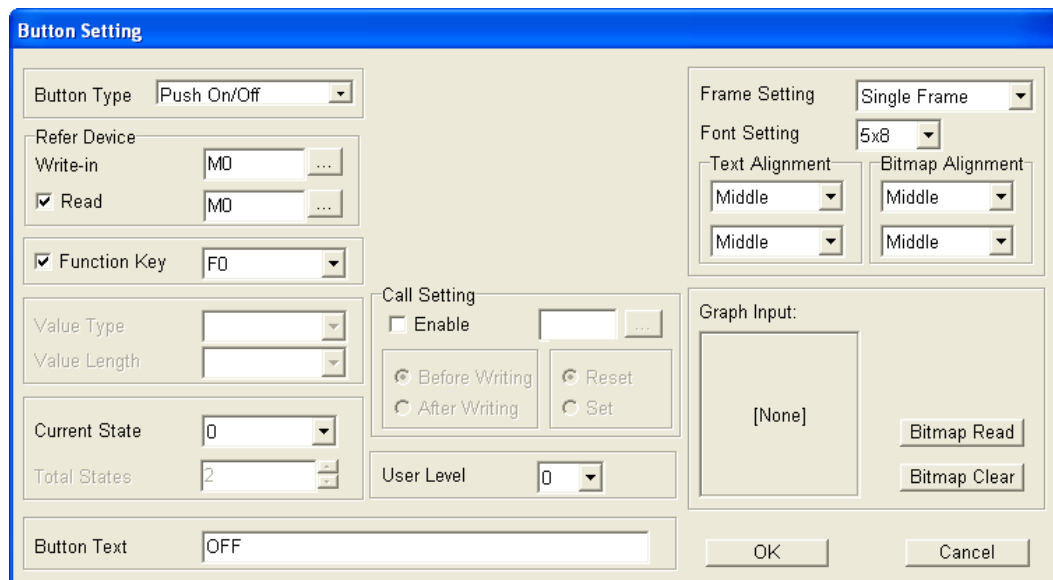

Figure 6-17 Button Setting window
- Step 4: After the users select **Push On/Off** in the **Button Type** drop-down list box, they have to select **F0** in the **Function Key** drop-down list box. After the users select **0** in the **Current State** drop-down list box, they have to type "OFF" in the **Button Text** box. Please see Figure 6-17.
After the users select 1 in the **Current State** drop-down list box, they have to type "ON" in the **Button Text** box, as shown in Figure 6-17. The users have to select 0 in the **Current State** drop-down list box, and then click **OK**.